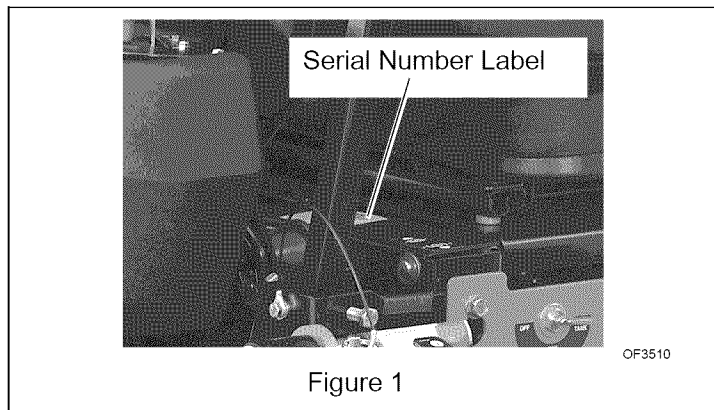

Figure 1
- Numbers are located on the product registration form in the literature package. They are printed on a serial number label, located on the frame of your unit (Figure 1).